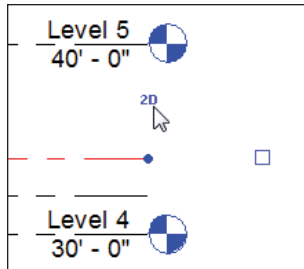

FIGURE 3.25 Turn off the 3D extents so you can drag the level end freely and without disturbing any other view.
5. Pick (left-click) the 3D icon. It now says 2D. The larger hollow blue grip now turns to a smaller, solid grip. You can now drag the level end without dragging the rest along with it. It also ensures this modification does not affect other views (see Figure 3.25).